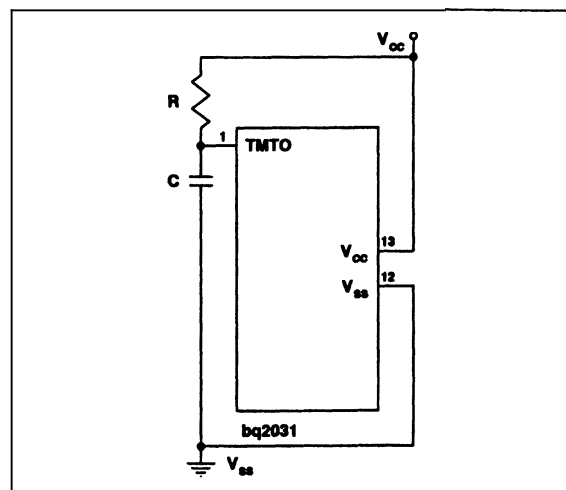

Figure 9. R-C Network for Setting MTO
**Fast** charge terminates if the programmed MTO time is reached without some other termination shutting off fast charge. MTO is programmed **from 1 to 24 hours** by an R-C network on TMT0 (see Figure 9) per the equation: